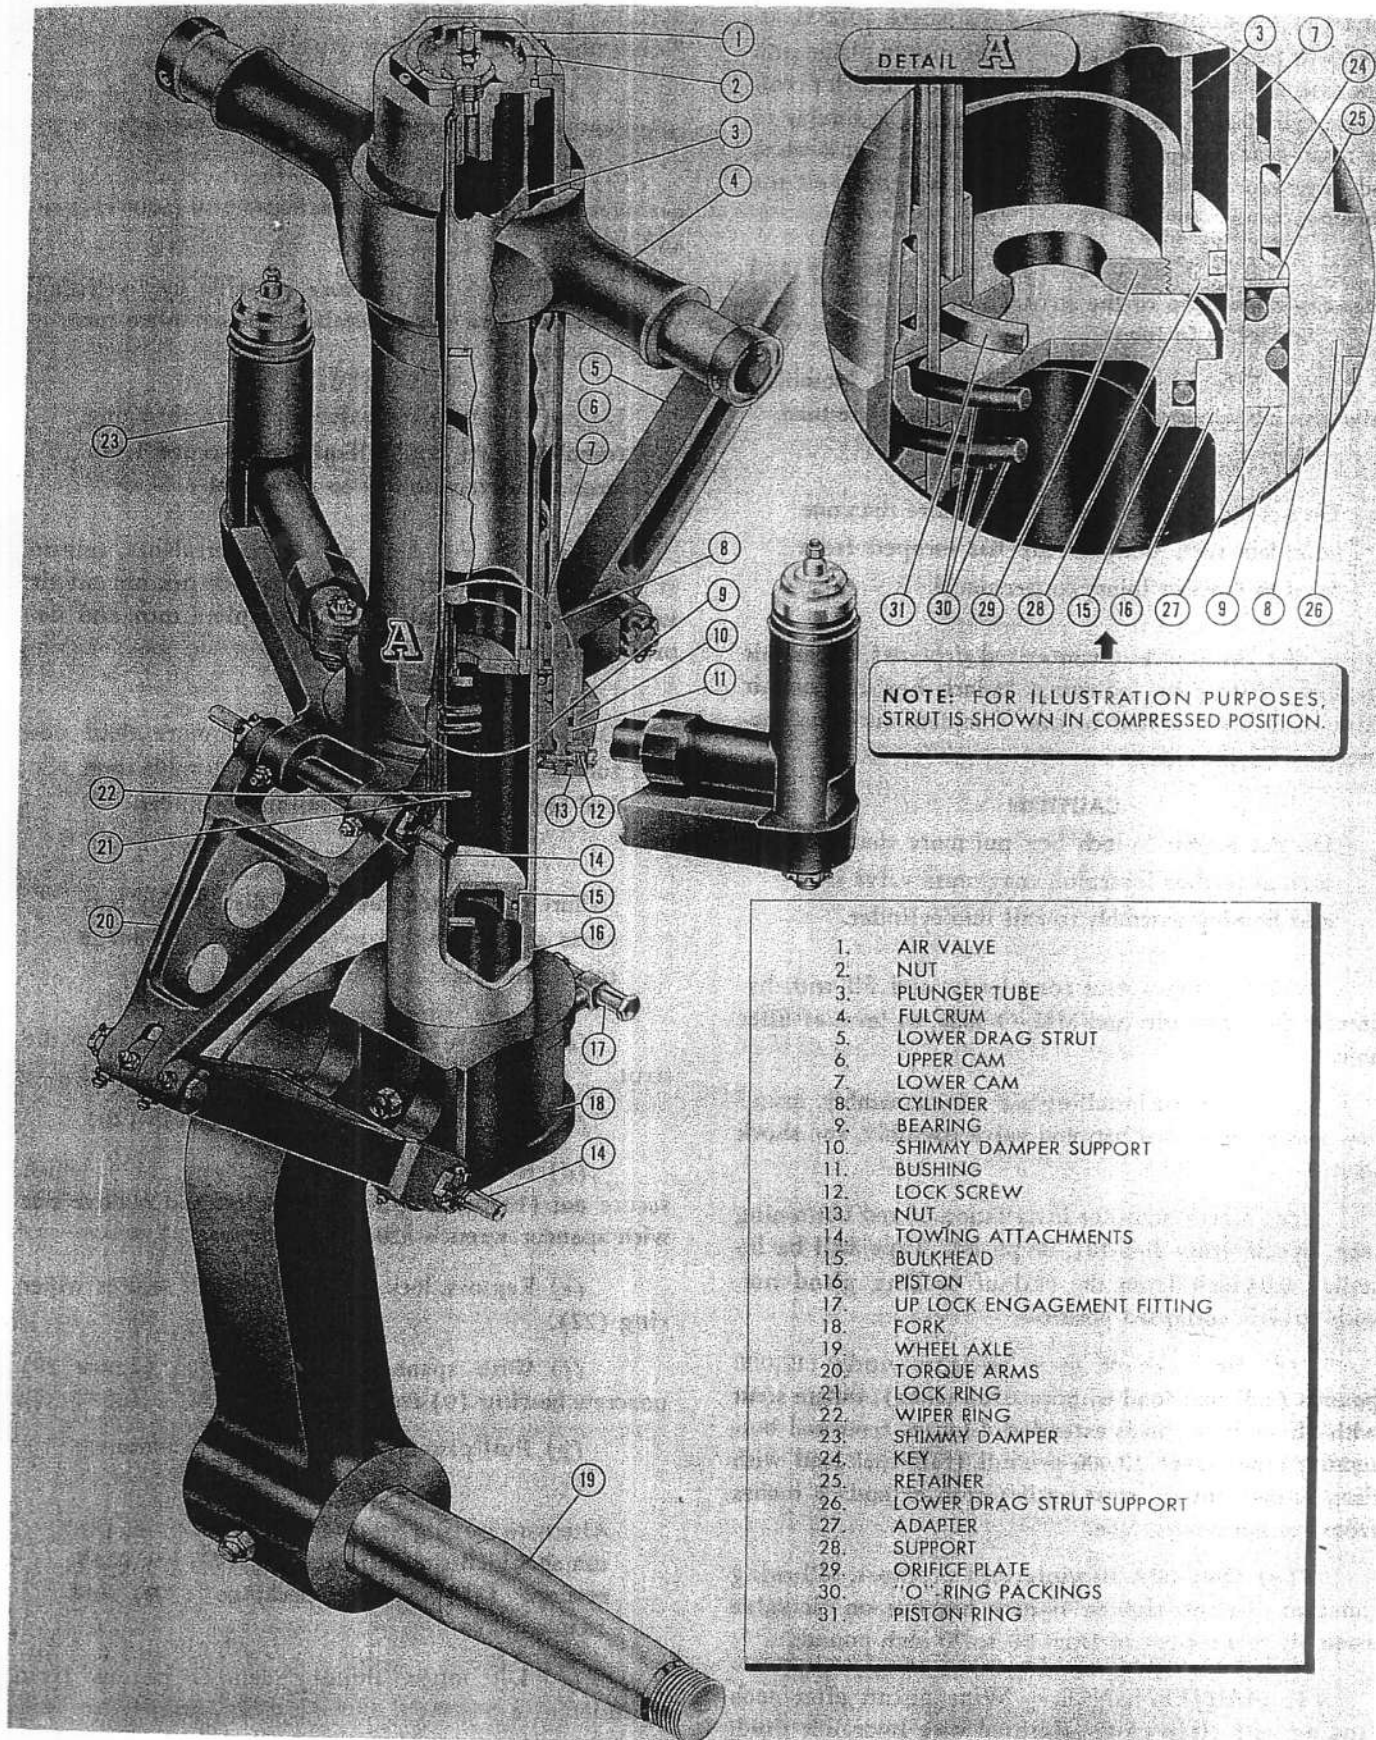

Figure 74 — Nose Gear Shock Strut
g. SHOCK STRUT, NOSE GEAR. (See figure 74.)
(1) DESCRIPTION.—The shock strut is an air-oil type with a maximum stroke of 8 inches. The cylinder is made with an integral fulcrum at the upper end, and lugs at the lower end for attachment of the upper torque arm and the two shimmy damper pistons. The piston incorporates a cantilever fork and axle for the wheel. An engagement bolt for the up lock hooks is in-